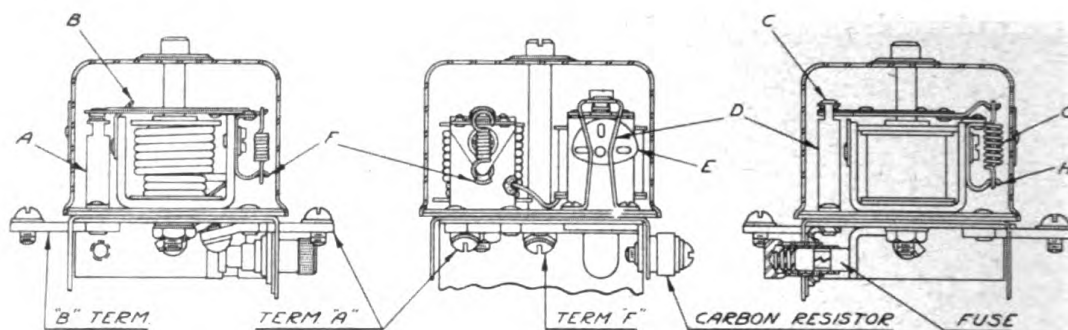

Figure 219. Voltage Regulator Line Drawing.
B. Adjust the closing voltage by bending the lower spring hanger (F in Figure 219) on the circuit breaker unit. Bending it down increases the spring tension, and bending it up decreases the spring tension.
Reduce the voltage and check the contact closing voltage as indicated by the lighting of the lamp. This voltage should be 1.8 to 2.0 volts below the reading obtained for the contact opening. Adjust by turning the brass cam (E in Figure 219) on the contact side of the voltage regulator yoke. This changes the contact gap (C in Figure 219) which must not be less than .005" after the adjustments are completed. When the regulator is correctly adjusted, apply a drop of air drying varnish to the cam to prevent slipping. Replace the regulator covers and reassemble the regulator on the generator.
This gap is measured with the regulator contacts closed. It can be adjusted by raising or lowering the stationary contact "A" in Figure 219. Keep the contacts closed.
This gap is measured with the contacts closed. It can be adjusted by raising or lowering the upper contact "C" in Fig. 219, by expanding or contracting the bridge "D" holding the upper contact.
Adjust by bending the armature stop in Figure 219.
Adjust by turning the brass cam "E" in Figure 219.